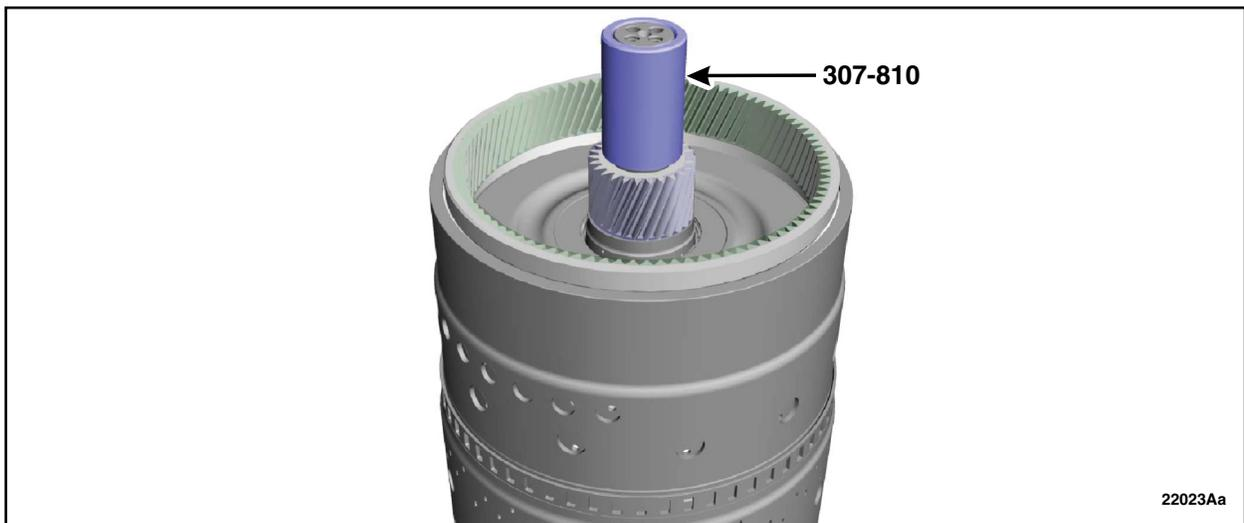

FIGURE 42
48. Remove the Special Service Tool: 307-810 pusher & sizer, F9 Seal guide. See Figure 42.